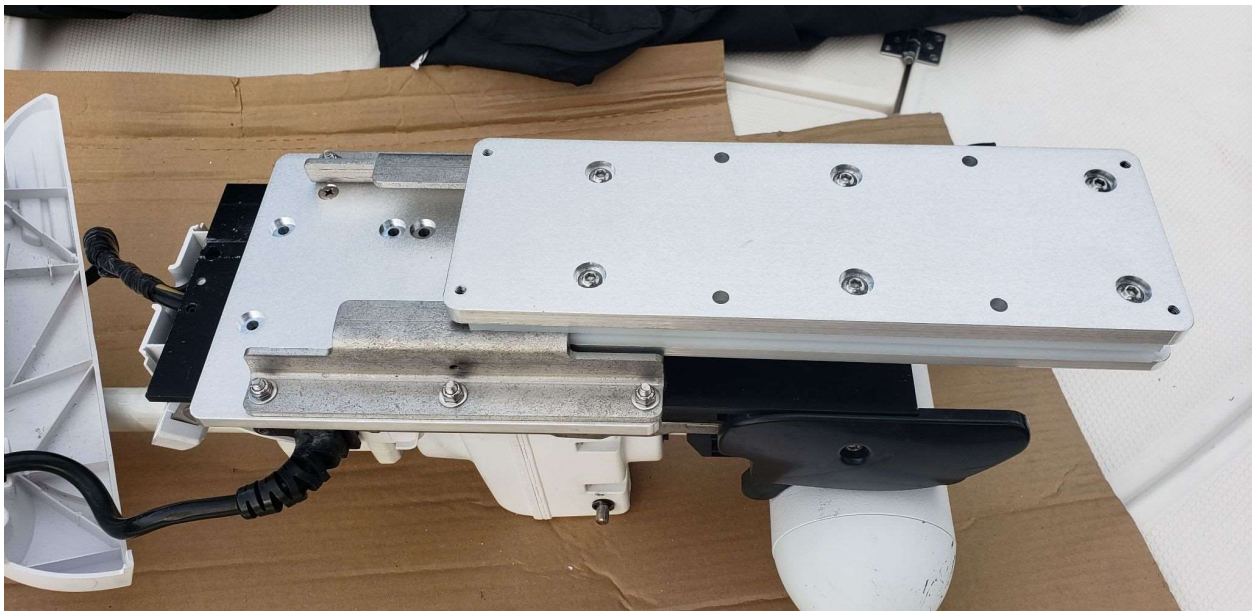

Figure 4a
- Slide the Carriage Assembly onto the Carriage Brackets as shown in Figure 4a